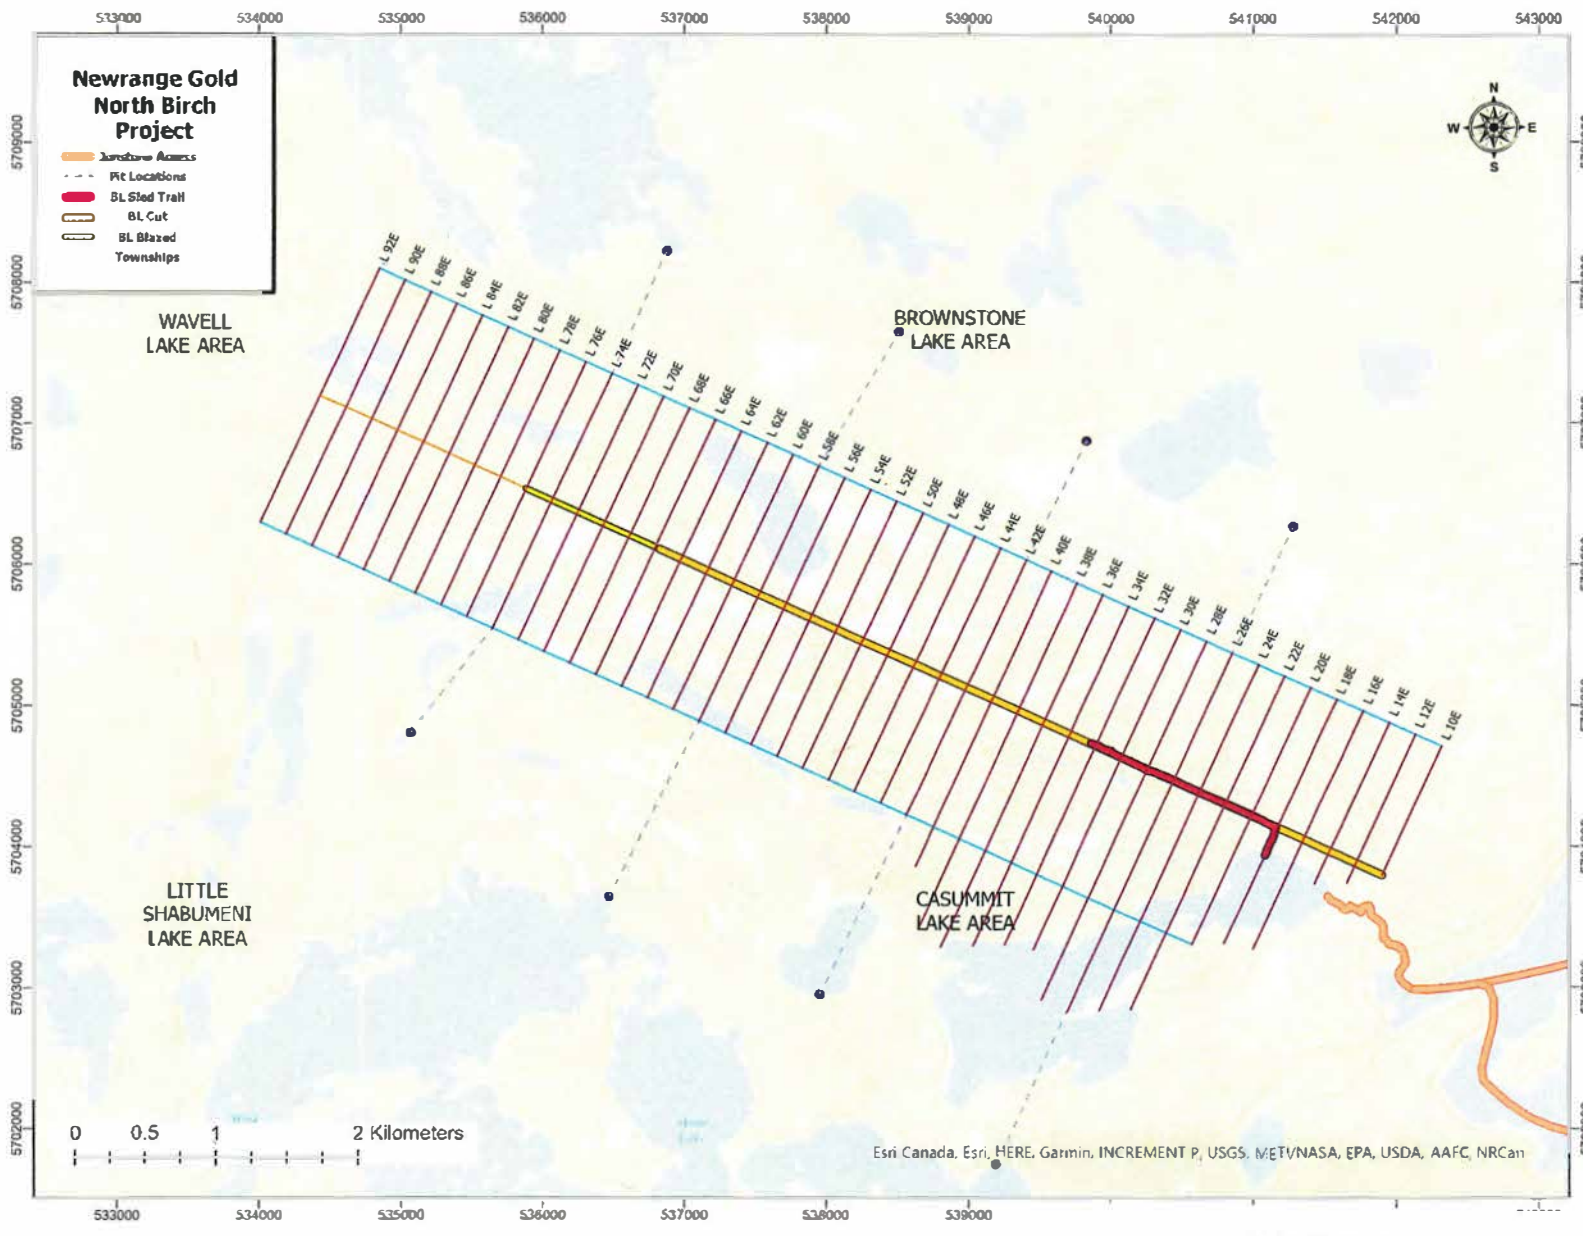
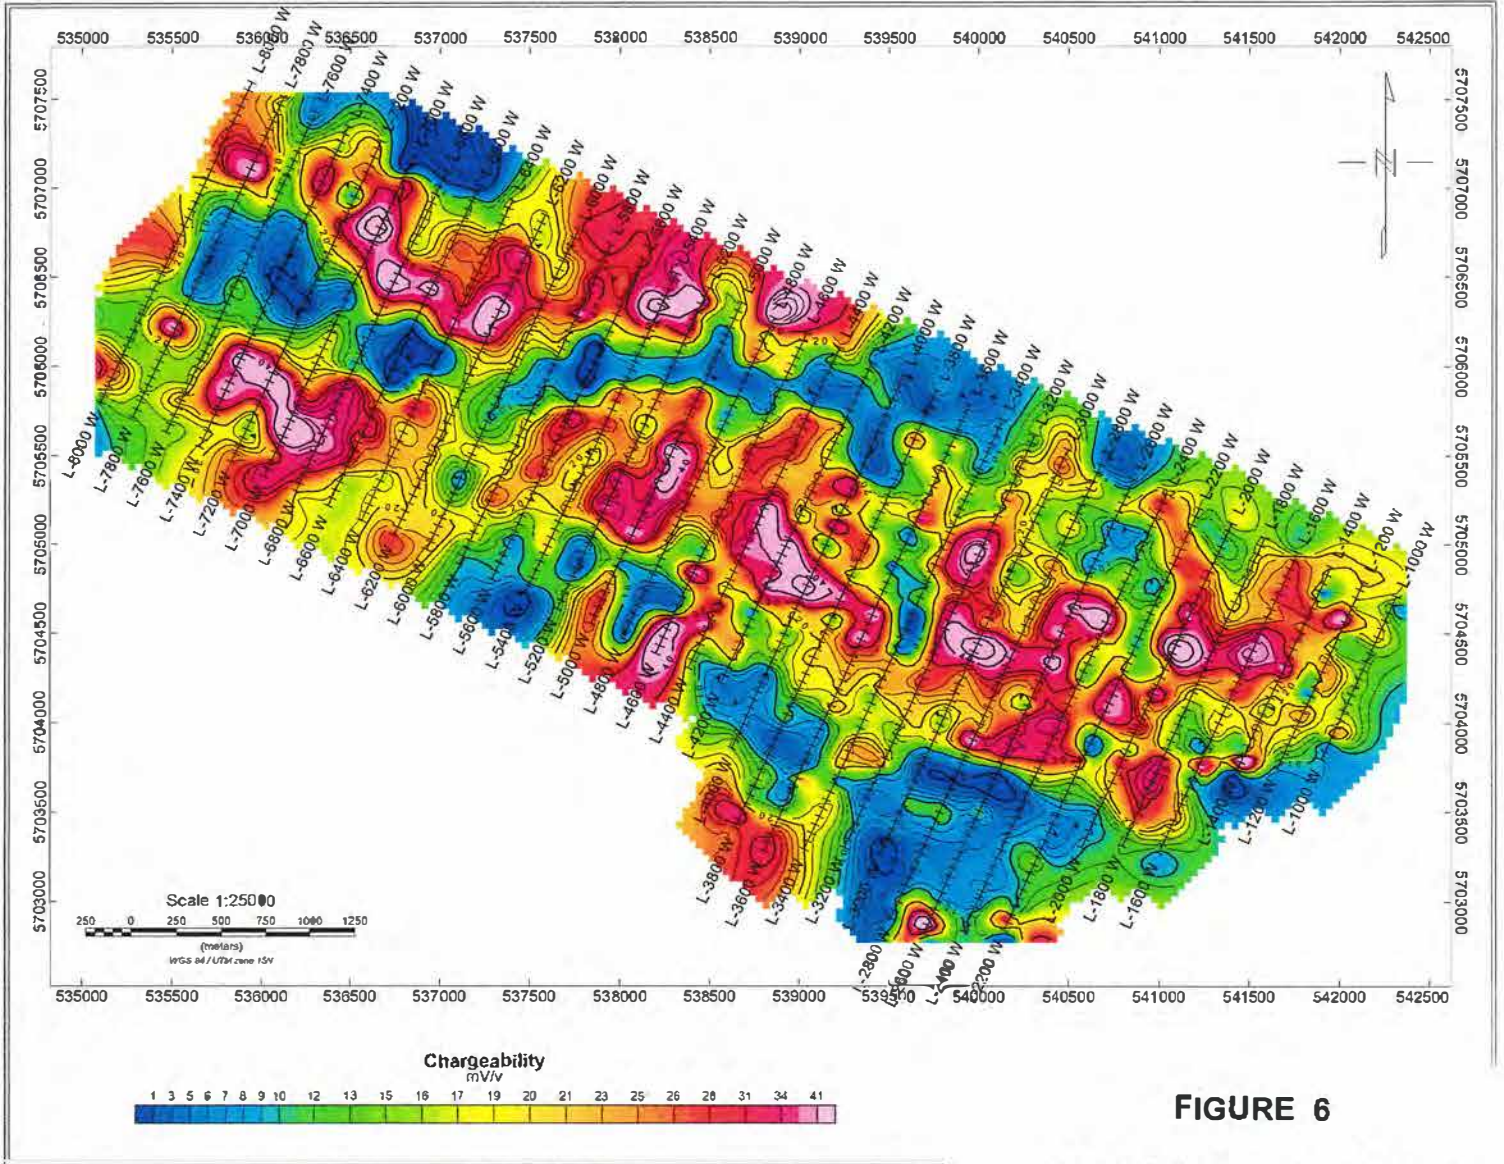

FIGURE 2
FIGURE 6
Newrange Gold Corp. acquired the North Birch Project (north of Birch Lake) in the Red Lake Mining Division of Northwestern Ontario (Figure 1) for its potential to host gold mineralization of economic interest, based on previous work in the area and the favourable geological environment. The following " Interpretation Report " was prepared at the request of Mr. Brent Patrie of Dan Patrie Exploration Ltd. an experienced IP contractor who had just completed a Gradient Induced Polarization Survey (GIPS) on the North Birch Grid. The survey was carried out over a 44 day period from February 10 to March 25, 2021. The Survey Grid (Figure 2) is centred at UTM co-ordinates, NAD 83,, Zone 15, 539000 mE, 5705000 mN, trends N 65°W and is approximately 8000 metres long and 2000 m wide (N 25° W). There are 42 survey lines spaced at 200 metres and a total of 74.5 line-km was surveyed. Figures 6 and 7 show the plotted IP Chargeability and Resistivity measured/calculated GIPS values respectively and were prepared by Mr Gab Roy, Smooth Rock Falls, Ontario. Figures 2,3 and 5 were provided by Newrange Gold Corp and the writer prepared Figures 1 and 4.
Between the 10th of February and the 25th of March 2021, Dan Patrie Exploration Ltd, carried out a Gradient Induced Polarization Survey on the North Birch Project Grid with a total of 74.5 line-km in 42 lines being surveyed. The measured/calculated Chargeability and Resistivity values are plotted respectively in Figures 6 and 7.
In Figure 6, the Chargeability values are plotted in mV/V and fall into five(5) ranges:
In some areas, two trends meet and in doing so produce longer Chargeability and Resistivity zones. And so as can be seen in Figures 6 , these zones of higher values occur in two rather irregular groups trending N 75° W to to East - West, separated by zones of very low Chargeabilities (blue), with similar trends.